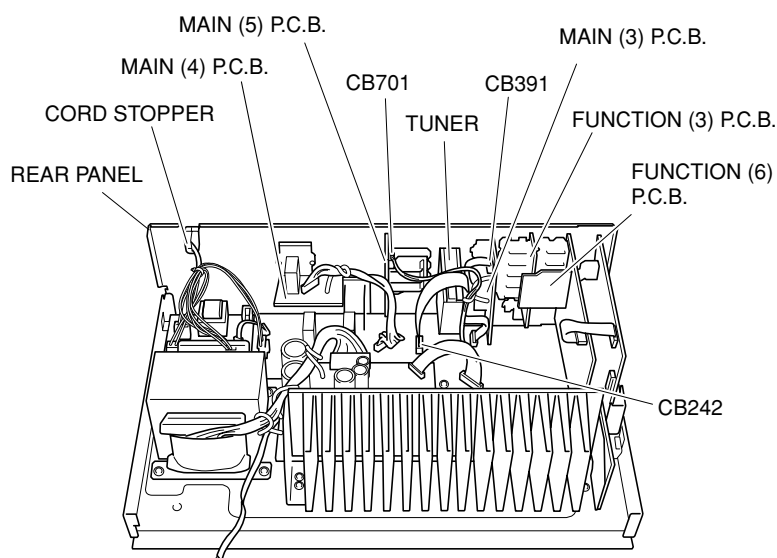

Fig. 2
- Remove CB242, CB391 and CB701. (Fig. 2)
- Remove MAIN (3), MAIN (5) P.C.B.s. and the Tuner. (Fig. 2)
- Remove Cord Stopper. (Fig. 2)
- Remove Rear Panel. (Fig. 2)
- Remove MAIN (4), FUNCTION (3) and FUNCTION (6) P.C.B.s. (Fig. 2)